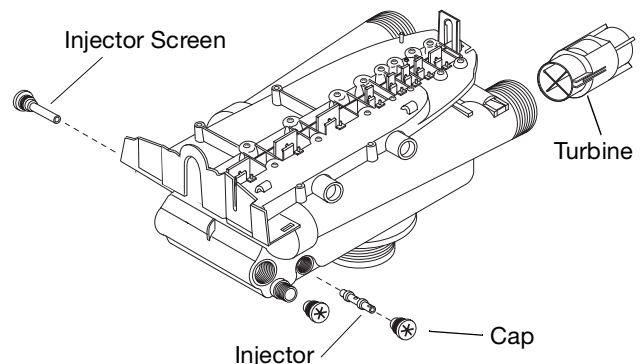

Figure 10
4. Using a screwdriver, remove injector screen and injector cap (Figure 10).
4. Using a needle-nose pliers, remove the turbine from the outlet housing. Grasp one of the four vanes of the outer gland and pull straight out to remove turbine assembly from the outlet of the valve (Figure 10).